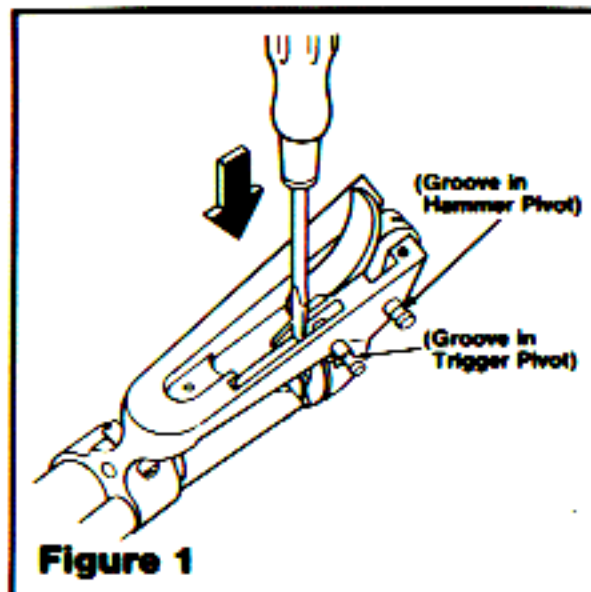

Figure 1
8. Removing the trigger pivot (pin) is one operation where it is useful to have a helper, because the novice usually needs a 'third' hand. Ideally, something like a bag filled with shot on each side of the gun will solidly anchor it as it should be. (See Figure 1, note the groove in the trigger pivot.) Using a screwdriver as shown in Figure 1, depress the gate detent spring so that the end of the spring which rests in one groove of the trigger pivot is free of the groove. Then, use a drift and hammer to push the pivot completely out of the frame. **CAUTION:** Press the screwdriver blade tip against the spring carefully and be certain the blade does not slip off the spring and damage the frame or injure the person holding the gun.
2. (Refer to Figure 1.) Align hammer in frame and insert hammer pivot with the grooved end of the pivot on the gate side of the frame. (The long screw, XRN-19L, when also inserted on the gate side, will intersect the groove and lock the pivot in place. See step number 11.)
4. (Refer to Figure 1.) Depress the upper arm of the gate detent spring with tip of screwdriver blade and install trigger pivot. Pivot should be inserted from the gate side of the frame. The non-grooved end of the pivot should be inserted first. (It may be necessary to manipulate the trigger, the gate detent spring, and the cylinder latch to align them to receive the trigger pivot.)